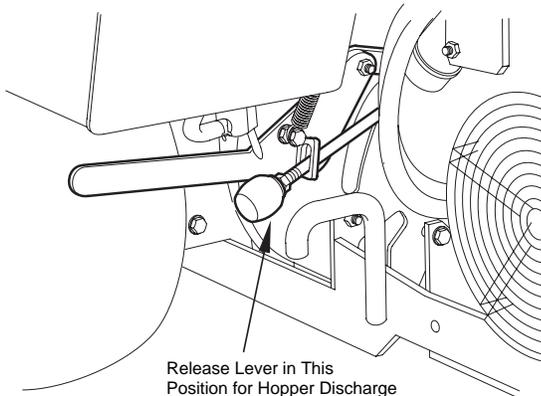
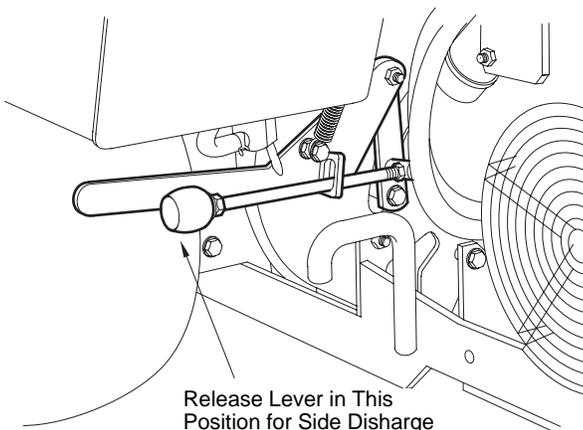

Figure 4-9 Hopper Operation Position
Figure 4-10 Side Discharge Operation Position
A control lever located on the left side of the tractor selects either hopper discharge or side discharge to the outside. When the lever is placed in the hopper position (Figure 4-9), the side discharge is covered and the hopper discharge is opened. When the lever is placed in the side discharge position (Figure 4-10), the hopper discharge is covered and the side discharge is opened.
1. Place the hopper/side discharge control lever in the hopper discharge position (Figure 4-9).
1. Place the hopper/side discharge control lever in the side discharge position (Figure 4-10).